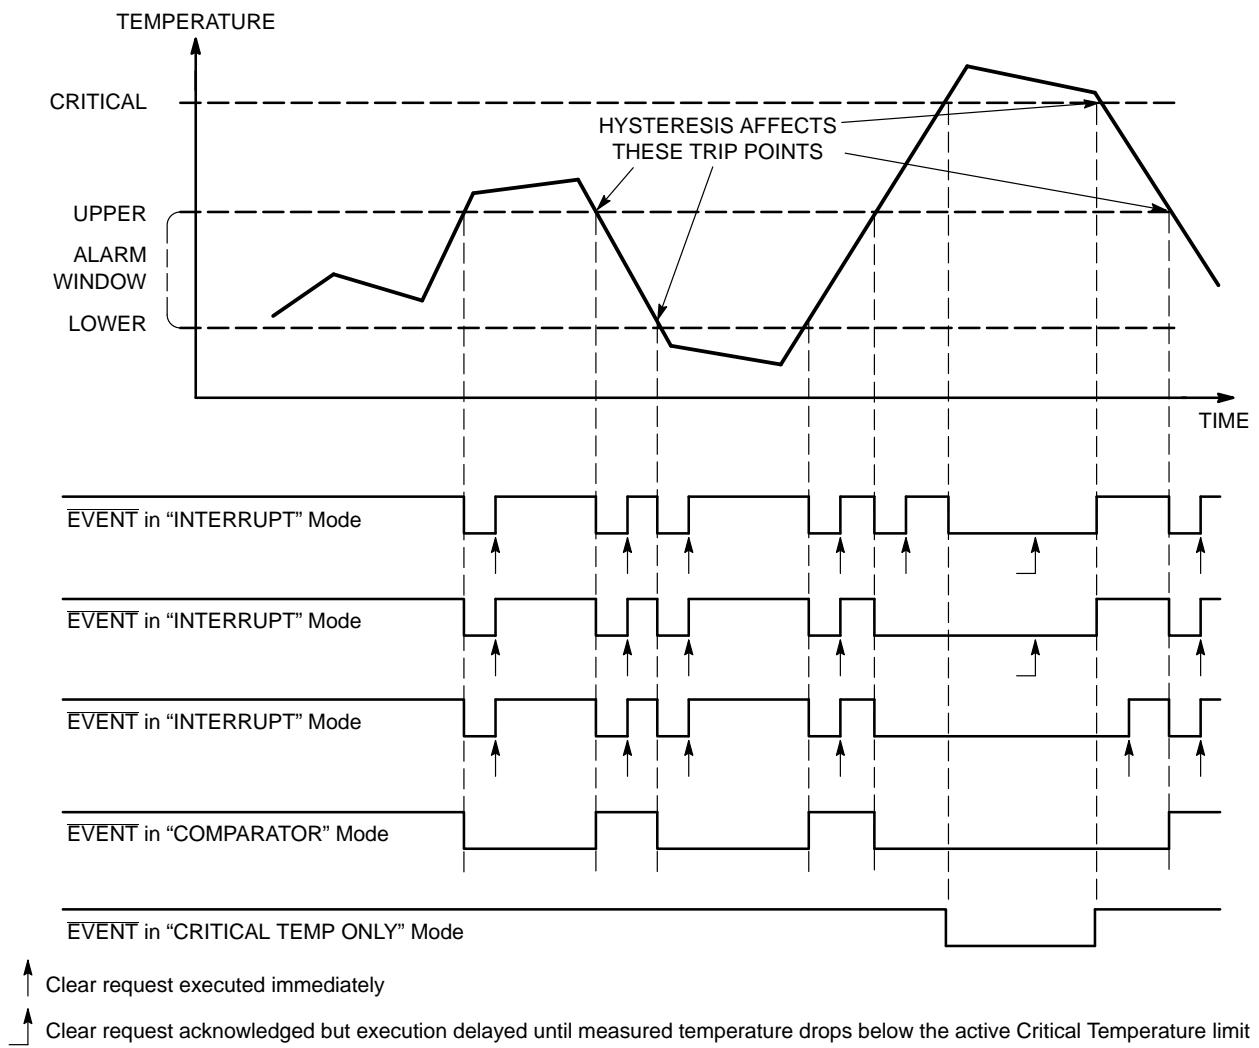

Figure 33. Event Detail
16. Writing a '1' to this bit clears an event condition in Interrupt mode, but has no effect in comparator mode. When read, this bit always returns 0. Once the measured temperature exceeds the critical limit, setting this bit has no effect (see Figure 33).
The EVENT output reacts to temperature changes as illustrated in Figure 33, and according to the operating mode defined by the Configuration register.